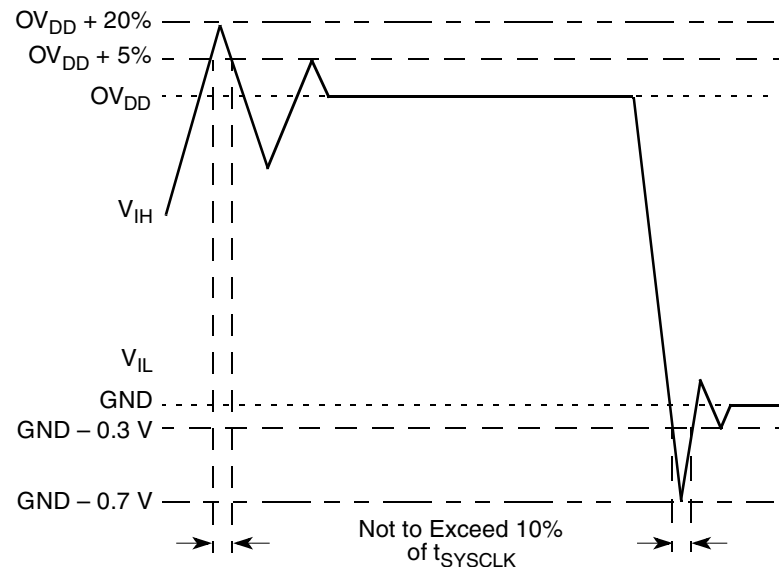

Figure 2. Overshoot/Undershoot Voltage
7. V_{in} may overshoot/undershoot to a voltage and for a maximum duration as shown in Figure 2.
Figure 2 shows the undershoot and overshoot voltage on the MPC7447A.